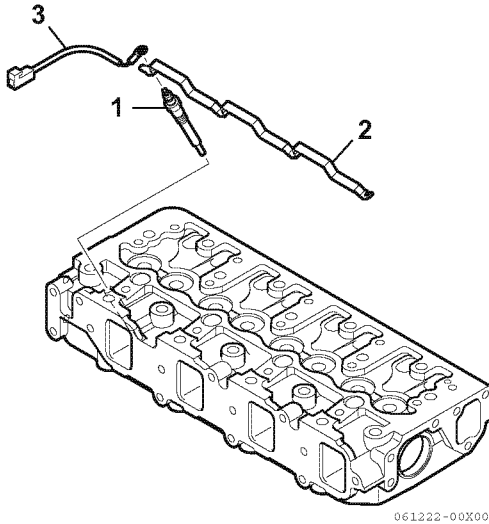

Figure 6-4
1. Remove the glow plug harness (Figure 6-4, (2), (3)) from each glow plug (Figure 6-4, (1)).